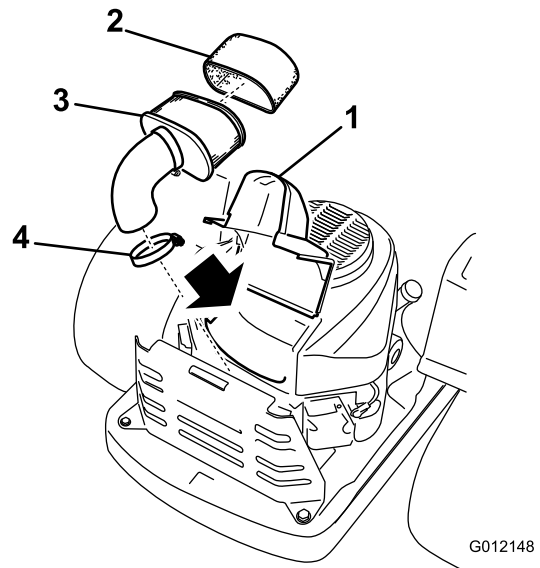

Figure 26
3. Clean around the air cleaner to prevent dirt from getting into the engine and causing damage. Loosen the two plastic knobs on the cover and remove the air cleaner cover (Figure 26).
4. Carefully remove the foam element from the paper element (Figure 26).
5. Unscrew the wing nuts and remove the paper element (Figure 26).